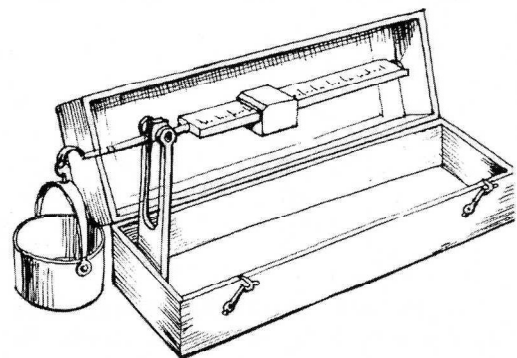
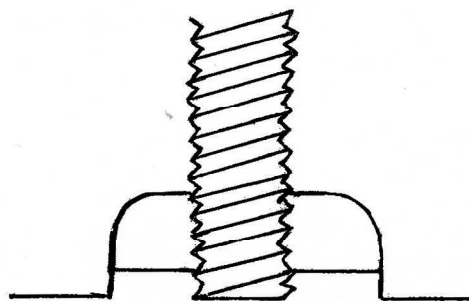

Figure 7. ▲▲ A folding pillar on this English chondrometer made erection of the instrument quick and easy. Late 19th century, unsigned.
Fig. 6. << Drawing of the very unusual slotted steel nut that holds the screw that comes through from behind. A feature of A, B, C and D.
It was called a "chondrometer", and was much used in corn exchanges, on farms and, later, in food processing factories, throughout the country. The instrument was normally contained in an attractive mahogany box with turnbuckles to retain the various component parts (figure 4). (Any wear caused by rattling around in the box would have reduced the accuracy of the scale.) When assembled, the beam rested on the top of a turned pedestal, and a grain bucket was suspended from the end (figure 5). In use, the bucket is filled and struck across the top, and then suspended from the weighing beam. A sliding weight is moved along the beam until it balances, and then the estimated weight, in pounds per bushel, is read directly from the graduations on the beam. Guidance on optimum weight for different seeds was usually provided on the label inside the lid of the box (figure 6). Some early chondrometers were calibrated in pounds per comb, a comb being four bushels. The British emphasis on speed was further developed, in the late 19th century, when the pull-up pillar (figure 7) was devised as an alternative to the free-standing pedestal which had to be screwed in or set up before weighing could begin.
Ratchet Screw Driver - Men most likely remember the "Yankee" screw driver (fig. 6); it was made by NORTH BROS MFG CO, PHILADELPHIA. (Note: In 1946, Stanley Tool Co. bought out North Bros.) Just about every tool chest in the early 20th Century had one. That screw driver went through a rather long evolutionary process, so there are many versions. What's a screw driver got to do with scales? Some members may have in their collection a family scale, spring balance principle, made of cast iron and built like a Duesenberg!! The circular brass dial face is marked, "US SCALE, PATD 1877", (fig. 7) an embossed stamping on the top of the body reads, "NORTH BROS MFG CO,
▲▲ Fig. 6
Fig. 7. ▲▲ The small DeGrave, Short & Fanner (E) showing the encased lower stays and the leg with its flared rest under the weight-pan. This was another method of resting the beam tipped to the left, so that it would accelerate to the right when a letter was loaded on. The curved beam and the iron handle are the same design as on the larger scales.